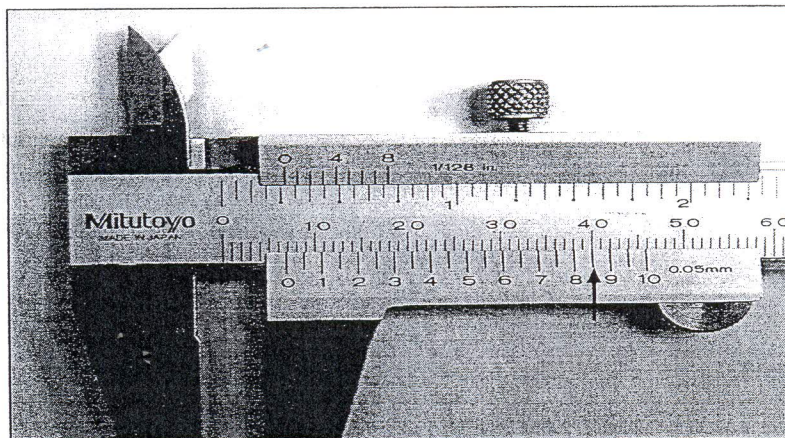

Figure 1.2: Vernier Caliper (Range: 0 ~ 150mm; Accuracy: 0.05mm)
- (b) Determine the measurement reading for linearity by the following metrological instrument as illustrated in Figure 1.2: